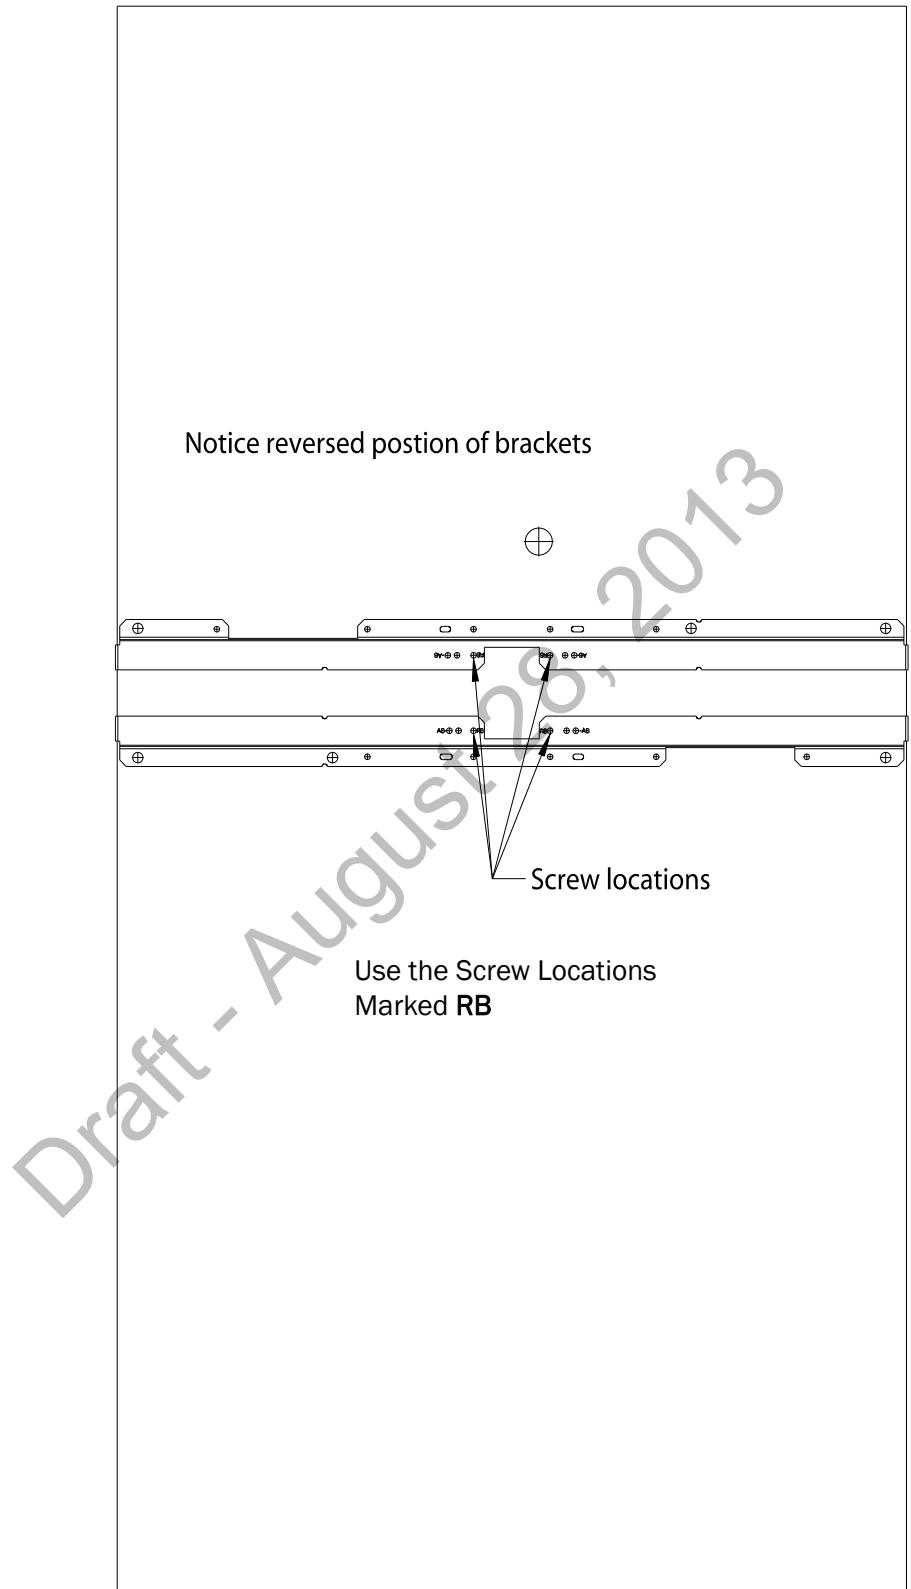

Figure 2-19: RA Below Ceiling Tile Mounting Rail Screw Locations
4. Mark the location of the **RB** screw holes in the mounting rails on the ceiling tile where the holes will be drilled through the tile as shown in Figure 2-19. Drill four 0.25-inch (6 mm) diameter holes in the ceiling tile.